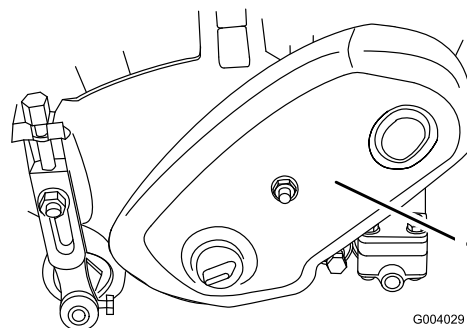

Figure 30
1. Remove the belt cover mounting fasteners and belt cover to expose belt (Figure 30).